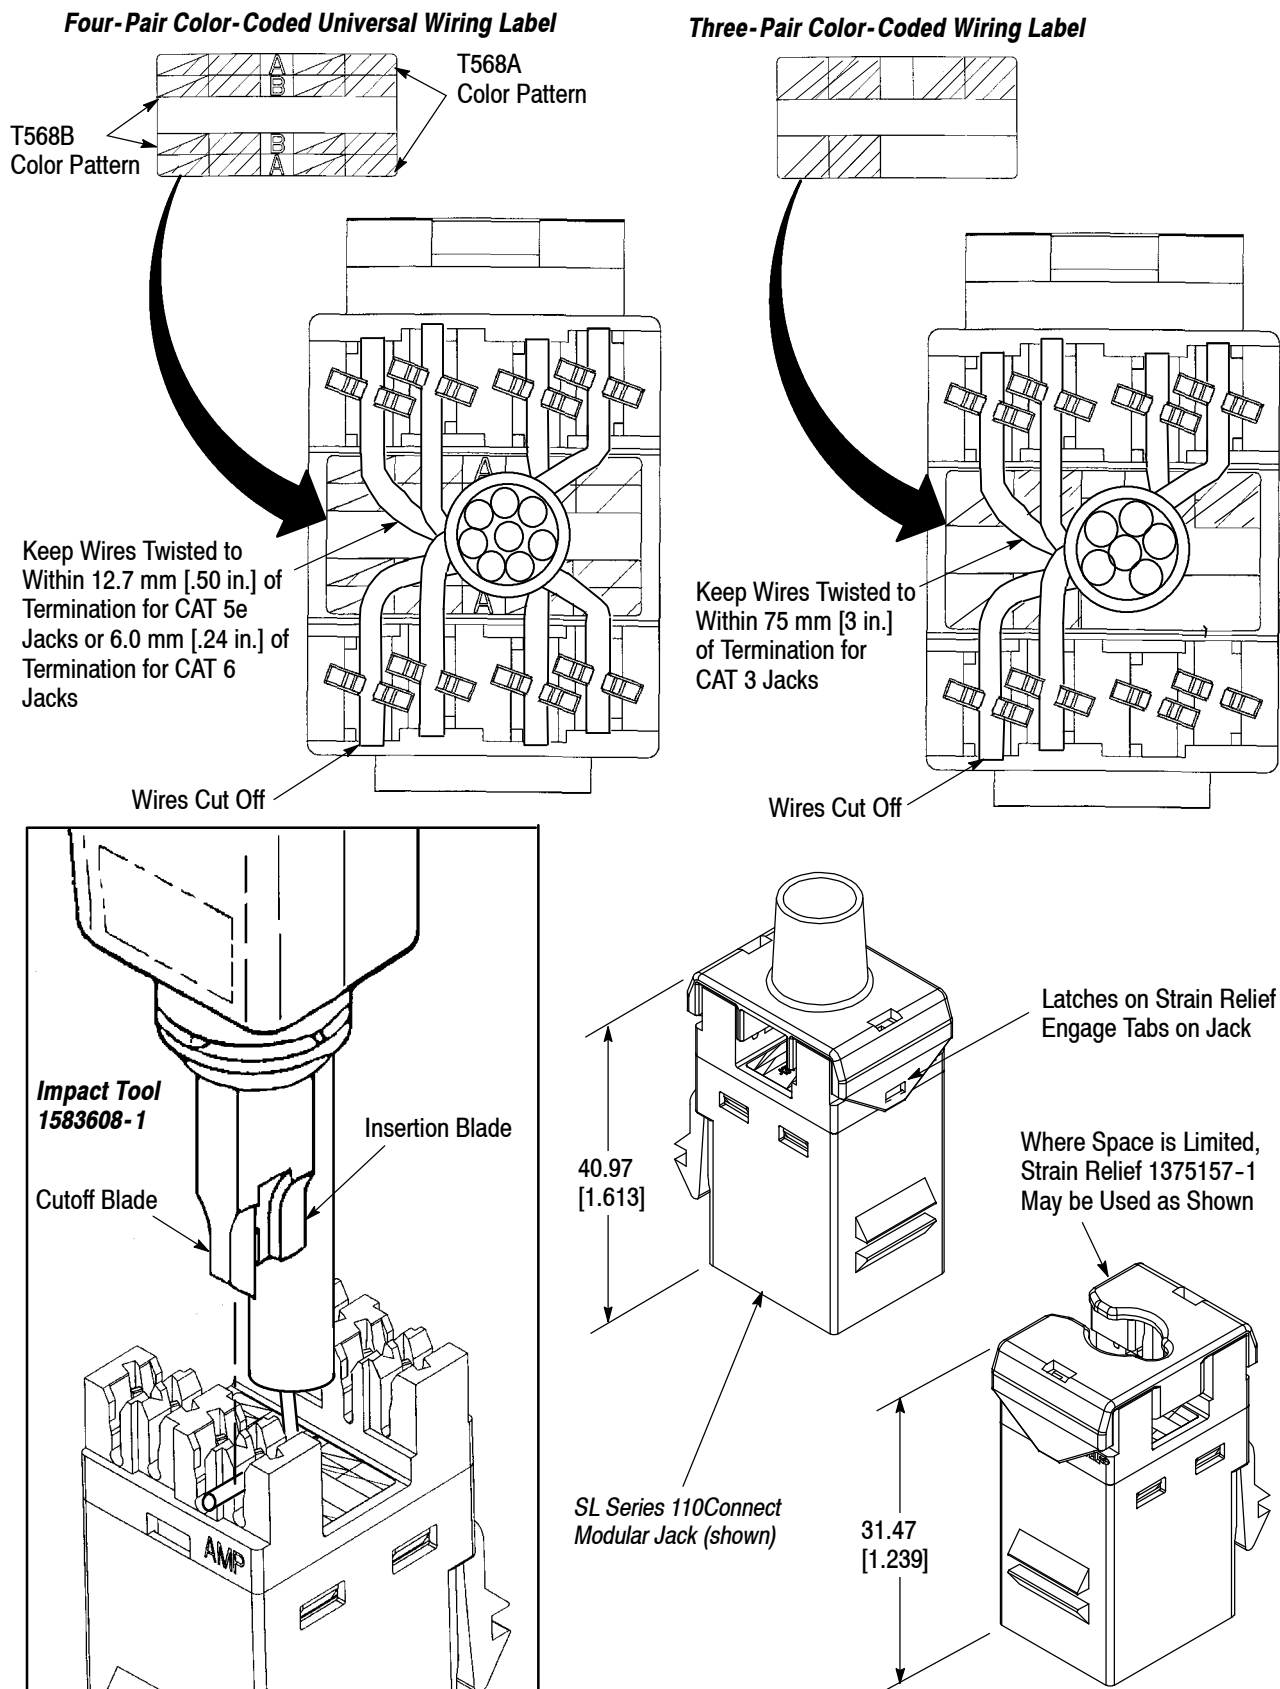

Figure 3
- Align and lace a color-coded wire pair with the appropriate slots as indicated by the color coding on the wiring label (use minimum slack while maintaining twist, as indicated in Figure 3).
- Slide bend-limiting strain relief (if used) onto jack. Latches on strain relief will engage tabs on rear of jack as indicated in Figure 3.